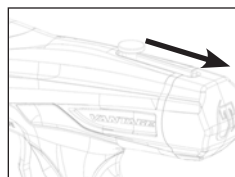

Figure 2: Cocking the Marker
- As shown in Figure 2, cock the marker by sliding the bolt handle all the way back until it locks into place. Always keep marker in the cocked position when the air/CO2 supply is attached to the marker. This helps prevent an accidental discharge.